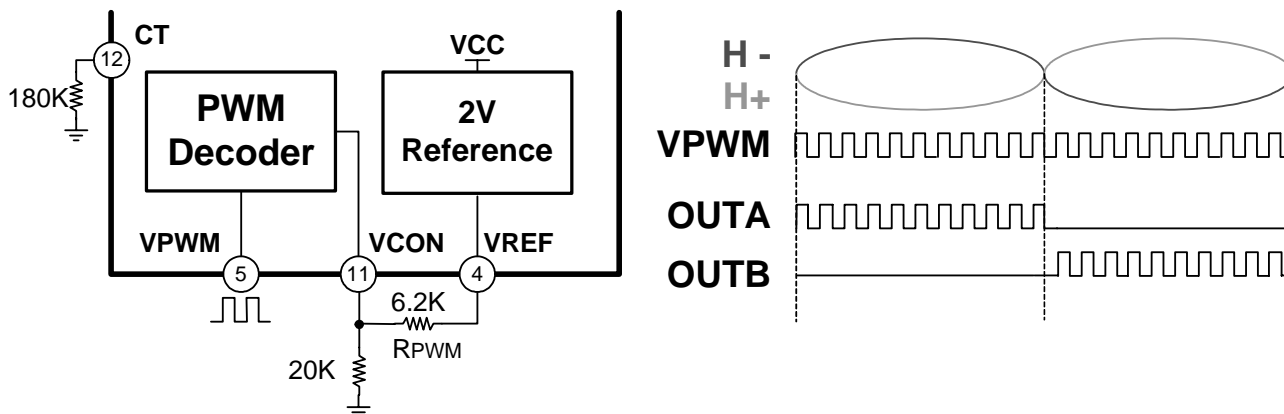

Figure 6. Interface and it's Related Waveforms Scheme3
This scheme indicates that digital PWM input signal becomes directly output PWM signal. In other word, frequency and duty of output PWM driving signal is the same as this digital PWM input. In case input PWM frequency is very low, active filter needs large value of capacitor to make speed control voltage in scheme 2. This scheme doesn't need filter capacitor and has good input/output characteristics. This means that there is no deadband and output signals are synchronized with input VPWM signal as shown in figure6.
When the rotor is locked, there is no change in input signal of hall amplifier and thus a internal TZERO pulse is not observed. A capacitor (C_{LD}) connected LD pin is continually charged by internal current source (i_{LDC}) to the internal threshold (V_{LDCL}) resulting from no Tzero pulse. When the voltage, V_{CLD} on LD pin, reaches V_{LDCL} , high side output power TR is turned-off to protect motor during TOFF and the alarm output (AL) becomes floating high. When the V_{CLD} reaches upper threshold, V_{LDCL} , V_{CLD} starts to decrease with internal current sink (i_{LDD}) to the low threshold, V_{LDCP} . At that time, the V_{CLD} ramps up again and one of two outputs is turned on depending on locked rotor position during TON. The charging and discharging repeat until locked condition is removed, or FAN8460MTC/FAN8460MP is powered down. The overall time chart is shown in figure.6. The auto- retry time (T_{ON}), the motor protection time (T_{OFF}) and the locked rotor detection time (T_{LOCK}) are proportional to external capacitor, C_{LD} . Each value can be calculated as follows;